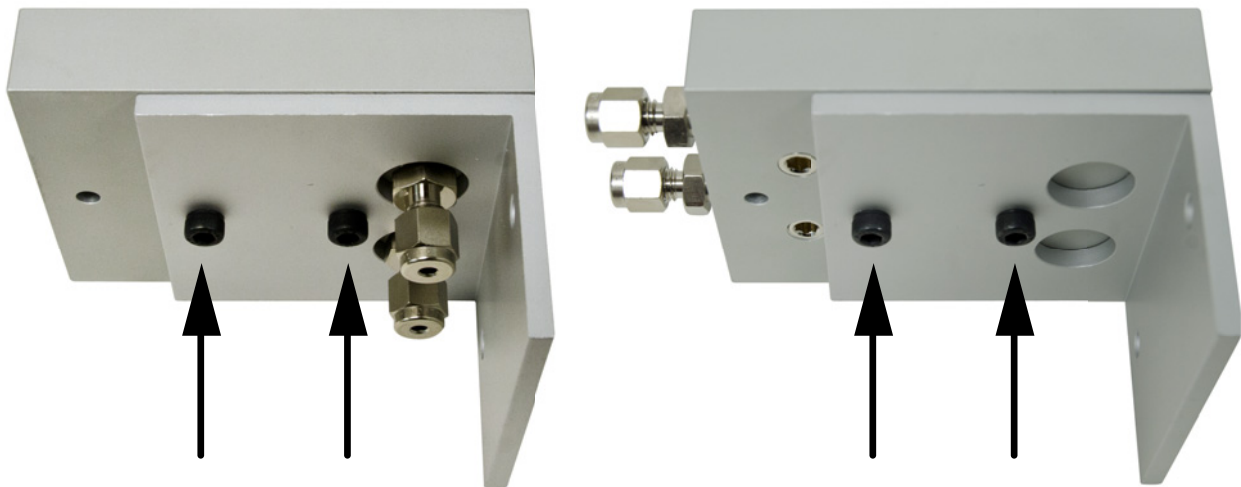

Figure 10 Hex screws installed
- b Using your hand, install the hex screws from the bottom-up until they are finger tight (Figure 10).